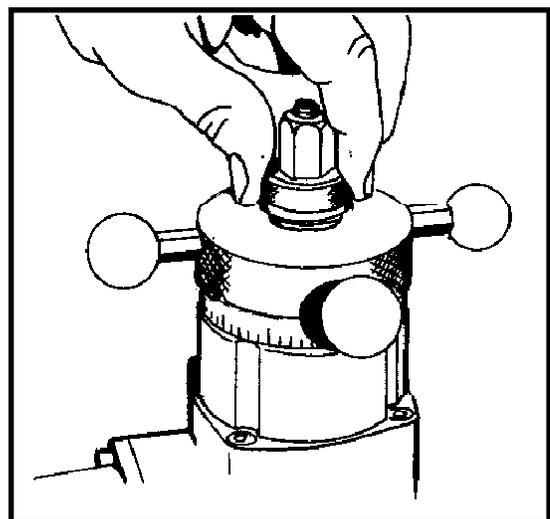

Figure 4
5. Install the draw bar nut followed by the collar nut. Once the collar nut is installed, the draw bar nut is capivated and can be rotated to expand and contract the mandrel legs (Figure 4).